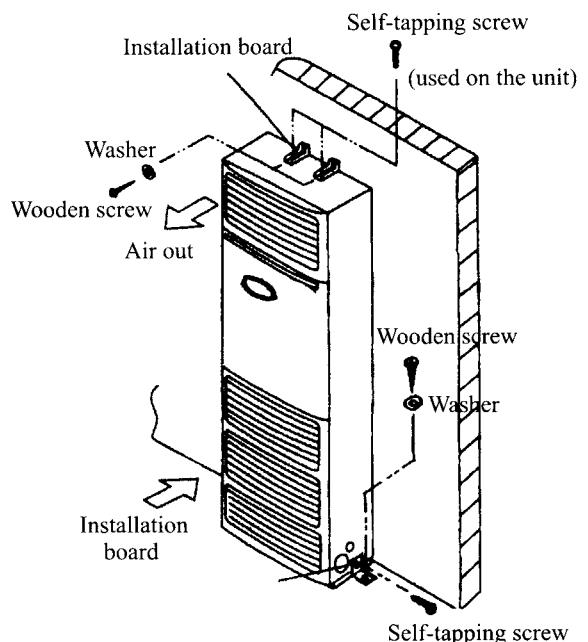

Fig. 97
- Use attached installation boards to fix the unit firmly to the wall and the ground (Fig. 97).